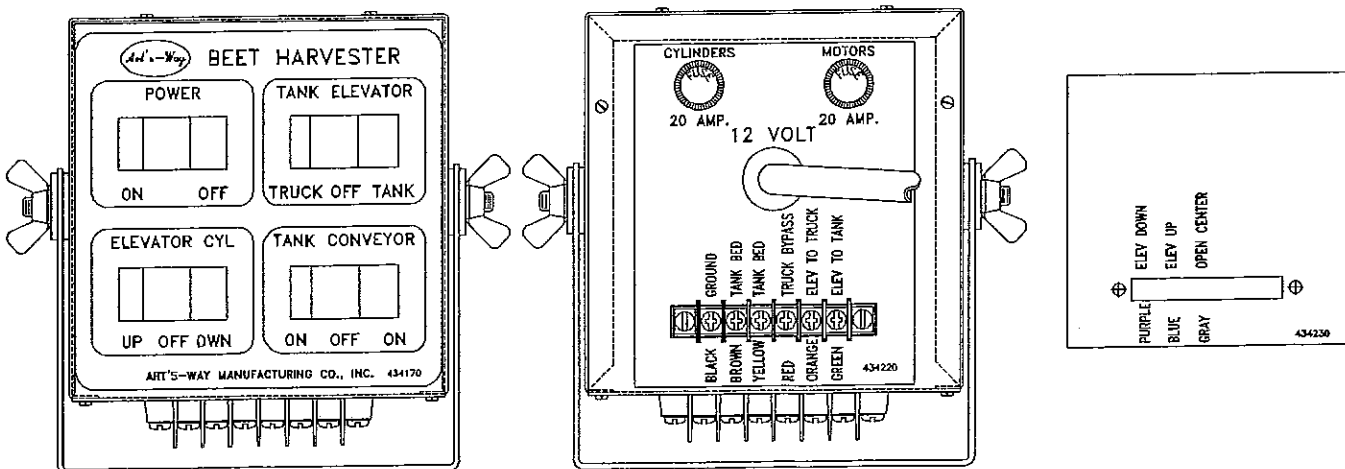

Figure 1.07: Main Control Box.
2. Route the main wiring harness through the cab and connect the wires to the control box according to the color of the wires and the color code on the box. See Figure 1.07.